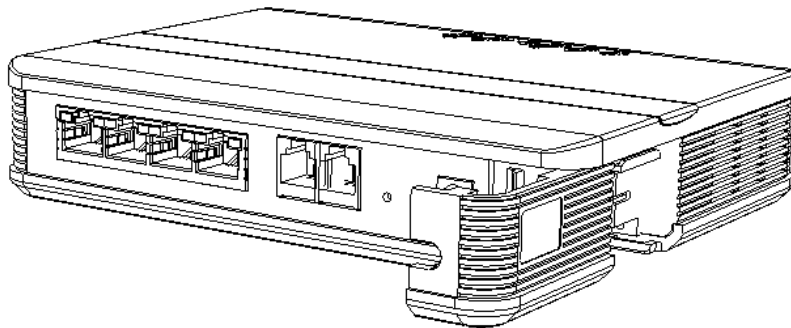

Figure 2 Remove the Laser Lock Door
1. Remove the Laser Lock Door (Figure 2).